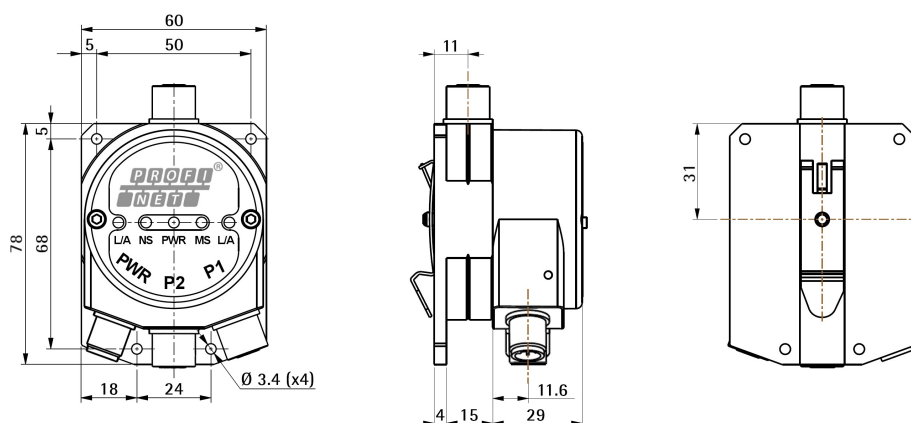

Figure 1 - Overall dimensions
3.2 Installation on panel (Figure 1)